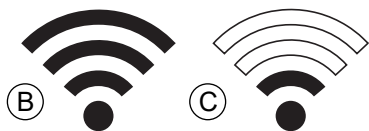

Figure 3-2. Signal Strength Display
3. See **Figure 3-2**. Verify home Wi-Fi network is being detected by the mobile device. Observe the Wi-Fi signal strength.